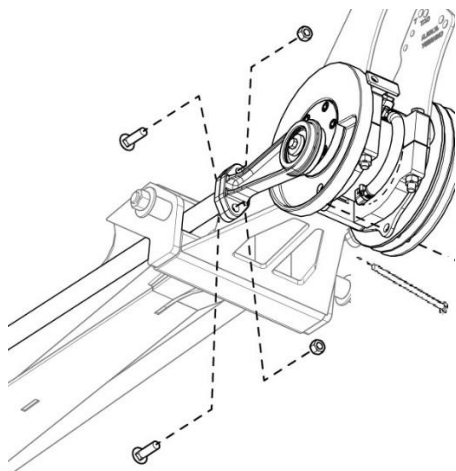

Figure 140
2. Run a long bolt or rod through the alignment hole of the two flywheels to keep them aligned with each other. Figure 140
6. Remove the bolts from the rear of the tie rods. Adjust the tie rods until the bell cranks are parallel. Figure 140
1. To remove the bell crank assemblies, install a bolt in the rear bearing drive for timing. Figure 140 in timing section.